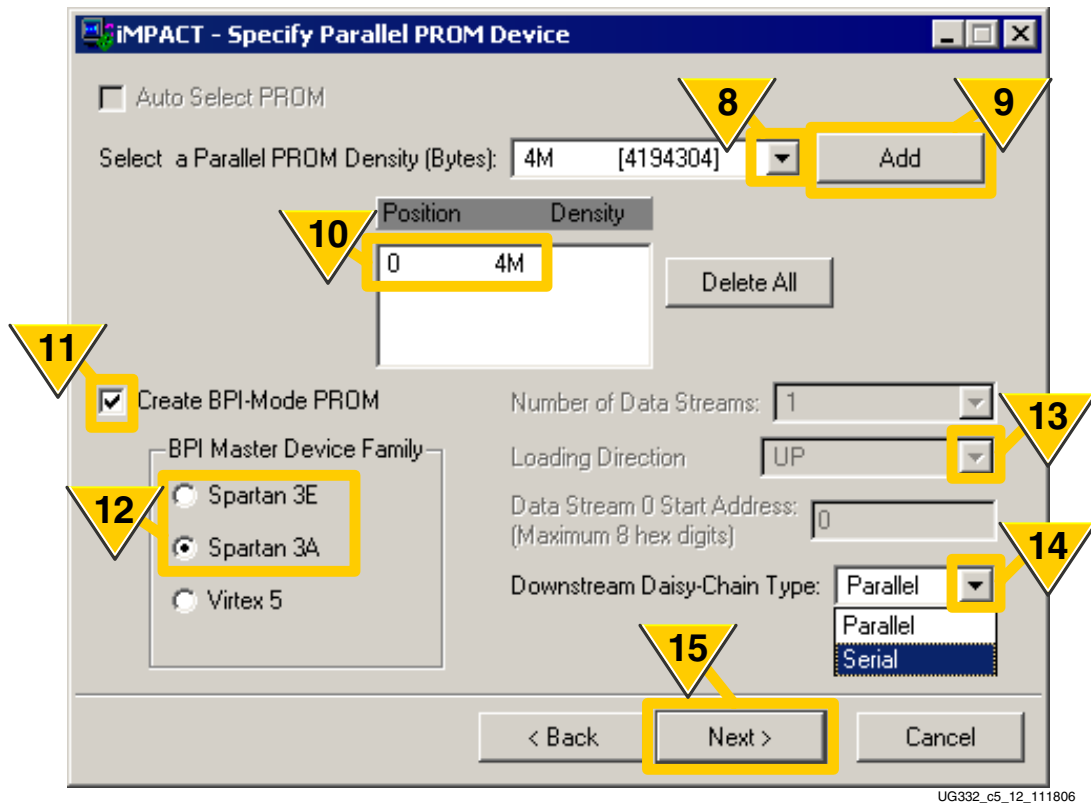

Figure 5-10: Select Parallel PROM Size and Configuration Style
The **CCLK** output from the master device operates at 8 times the frequency of the Flash read interface and CCLK synchronizes all FPGAs in the daisy chain. The master FPGA accesses the byte-wide Flash once every 8 **CCLK** cycles but provides serial data on its **DOUT** output to downstream FPGAs every **CCLK** cycle. iMPACT programming software automatically adjusts the CCLK frequency when serial daisy chains are selected in Step 14, Figure 5-10, page 153. In standalone BPI mode, the **ConfigRate** option determines the byte-wide interface frequency. When a BPI daisy chain is selected, the **ConfigRate** option determines the serial interface frequency, and the parallel Flash interface will run at 1/8 of that rate.
8. As shown in Figure 5-10, select the Parallel PROM Density, measured in bytes. This example uses a 32 Mbit Flash PROM, equivalent to 4 Mbytes.